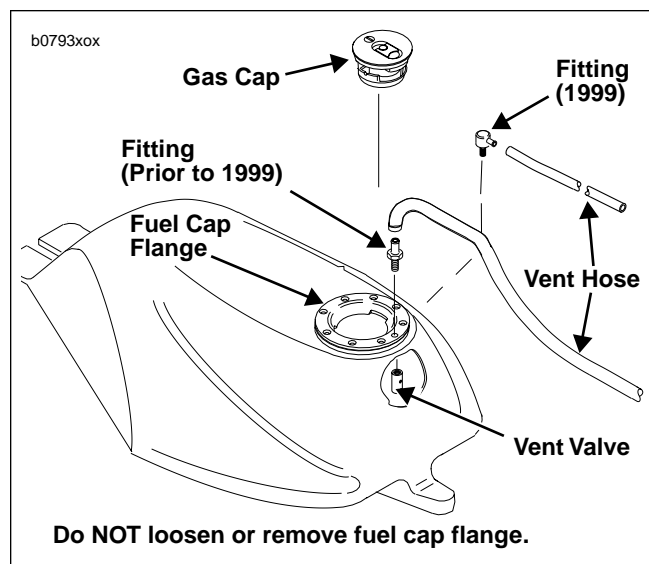

Figure 1. Previous Fuel Tank Vent
4. See Figure 1. Cut cable tie holding vent hose to fitting and remove vent hose from fuel tank.